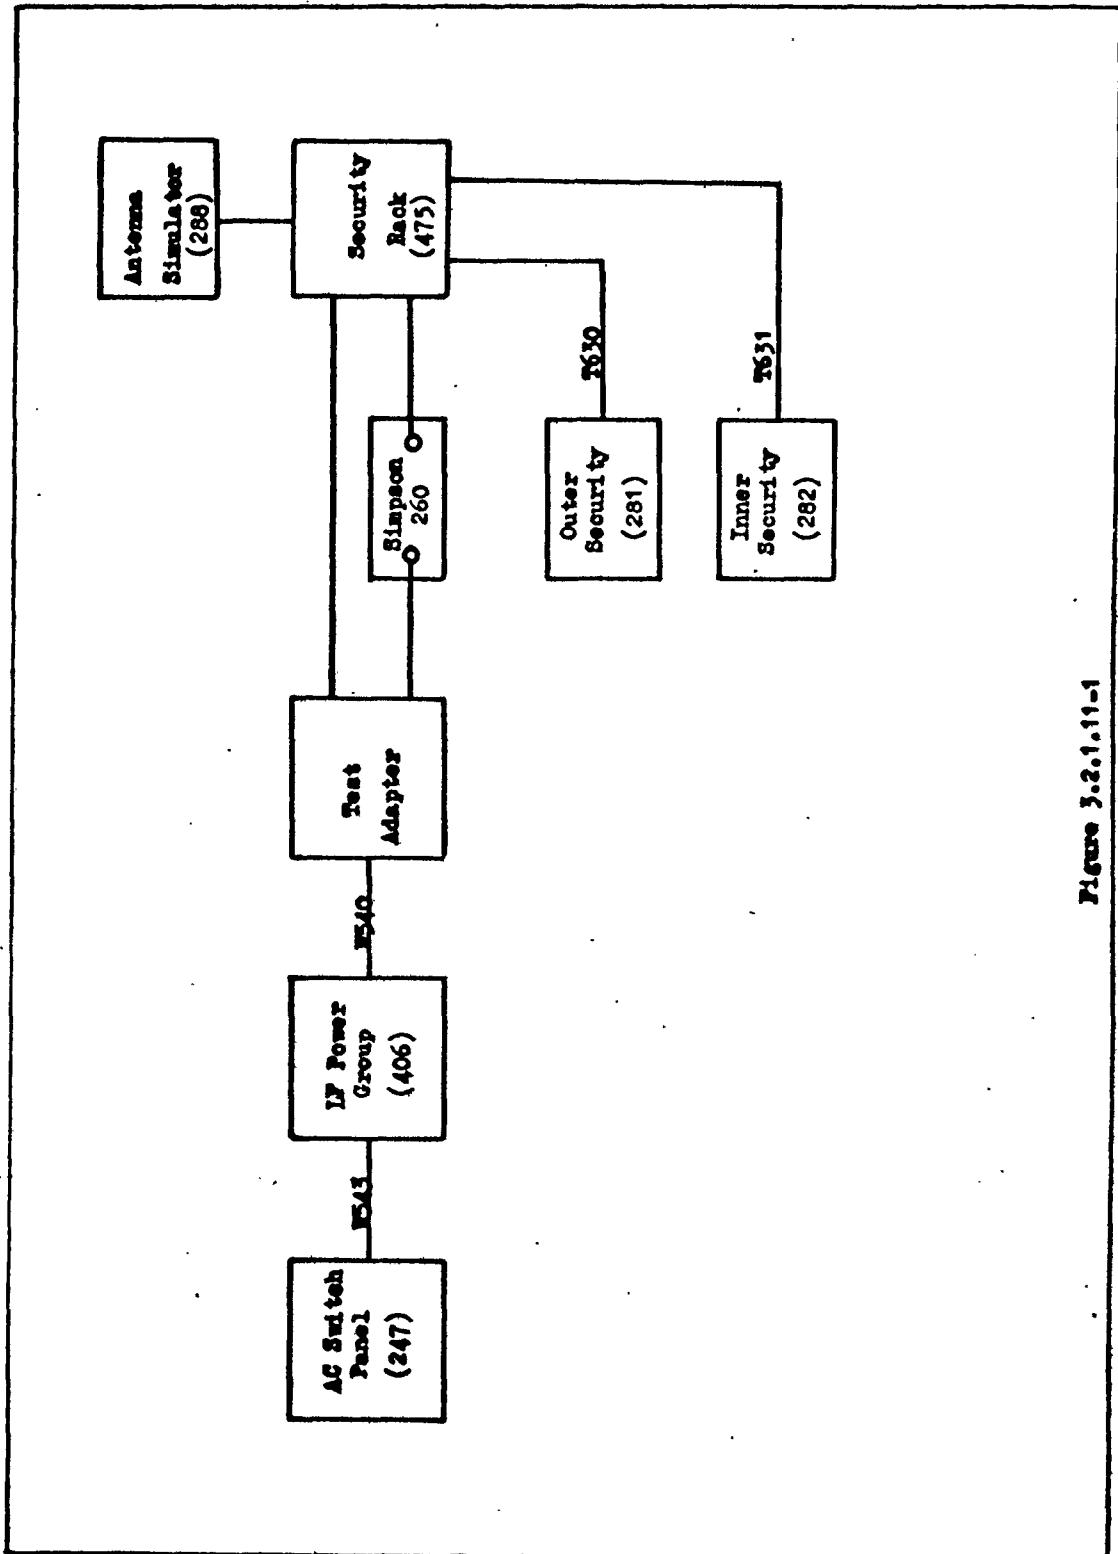

Figure 3.2.1.11-1
3.1 Connect the equipment as shown in Figure 3.2.2.2-1 with instrumentation per Figure 3.2.1.12-1.